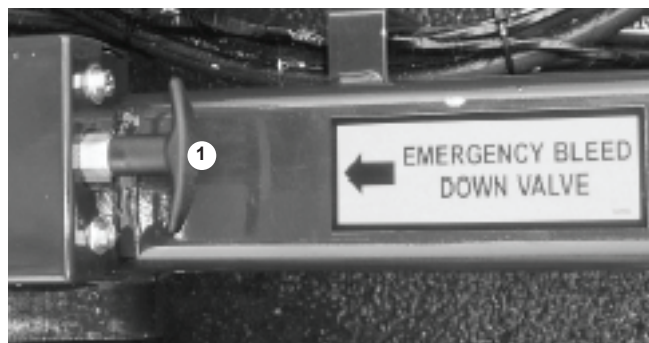

Figure 7.26 - Emergency Lowering
Operate the emergency lower by pulling on the cable (1) (see figure 7.26) located at the front of the chassis. When the platform is fully lowered release the cable.